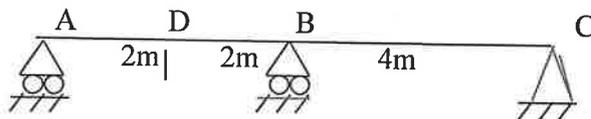

Fig 9
15. B). Construct the influence line for shear at point D which is the mid span of member AB shown in continuous beam in Figure 9 . Compute the value of maximum shear at D if the beam carries a UDL of 10kN/m and the UDL can occupy a single span fully or portion of span. 10M